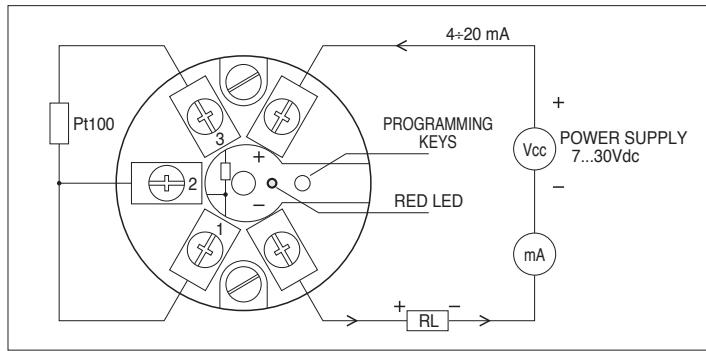

Fig. 2 Wiring diagram of the transmitters.
Output	4...20 mA (or 20...4 mA) 22 mA in case of incorrect programming or temperature out of range (note 1 and Fig. 2).
Fig. 2 reports the connection diagrams for the transmitters in the current loop. In order to obtain the maximum precision, the connection to the Pt100 should be performed with 3 wires and with wires having the same diameter so to grant the same impedance in each connection. The symbol RL (load) represents any device in the current loop that is to say an indicator, a controller, a data logger or a recorder.
1. Connect the transmitter to set-up as shown in Fig. 2 and set the Pt100 calibrator at the required temperature suitable for 4 mA (for example, assuming that you want to set the range -50...+200°C, you will set the calibrator to -50°C or equivalently you will connect a resistance of 80,31Ω between terminals 1 and 3 while 1 and 2 shorted).